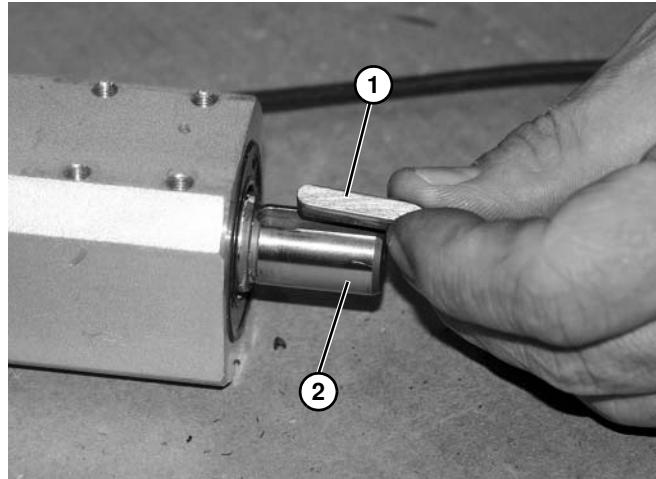

Figure 106
12. Remove and retain key (Figure 106, item 1) on motor shaft (Figure 106, item 2).